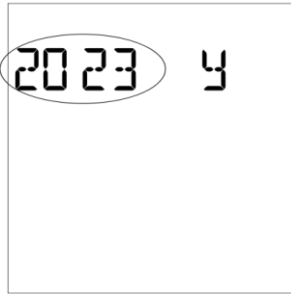

Fig 5.2
- 1) Press the right or left button to select the target year, short press of the power button to save the year setting and enter the month setting (Ref Fig 5.2).